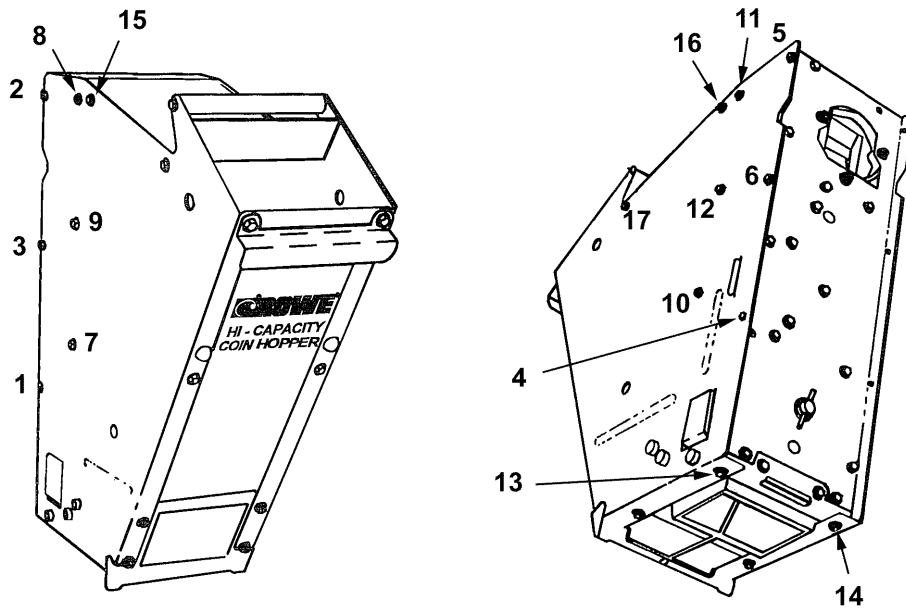

Figure 3-3C
4. Reassemble the hopper (when finished cleaning) by replacing the back chain plate assembly and starting all screws removed. Once all screws have been started, they may then be tightened. The screws must be tightened in sequence as shown in *Figure 3-3C*.